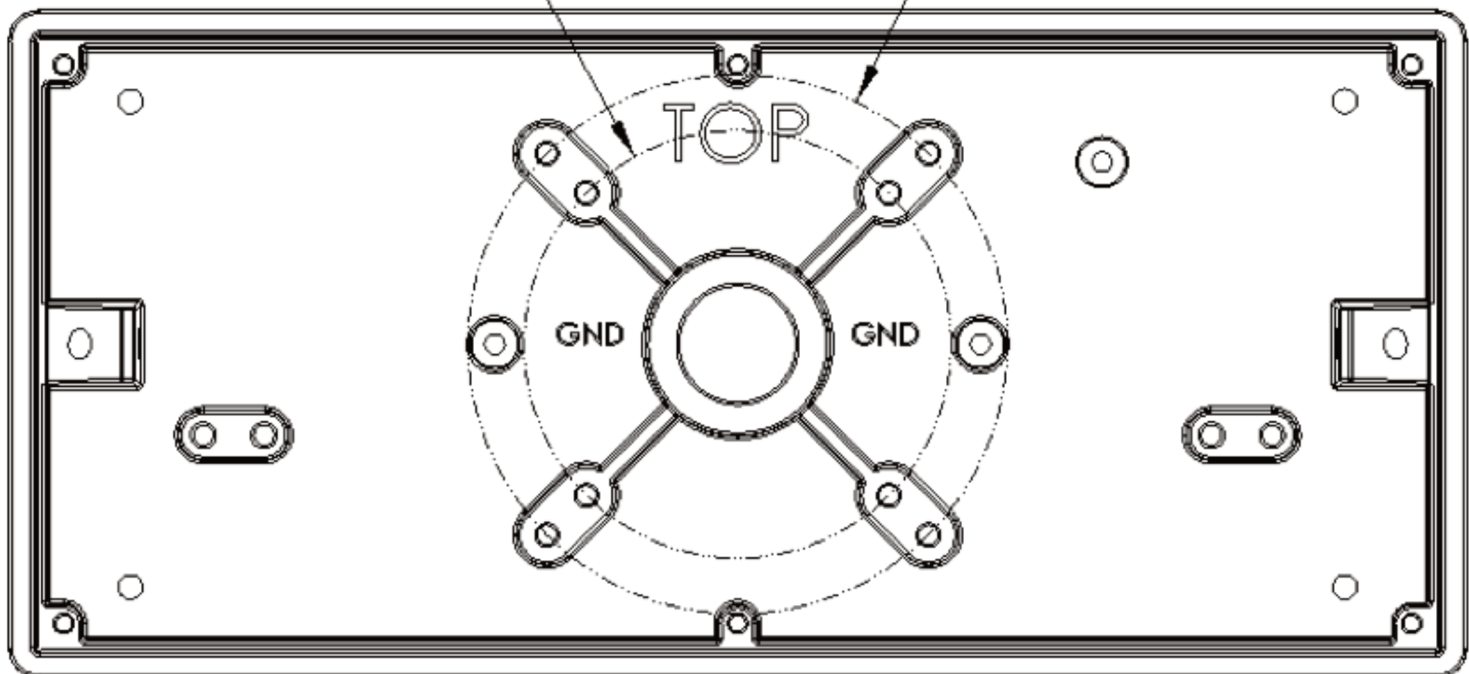

Fig. 8
9. Drill mounting holes in the mounting plate following the template as shown. Drill through the raised hole locations that correspond to the mounting points on the intended junction box (**Figure 8**):